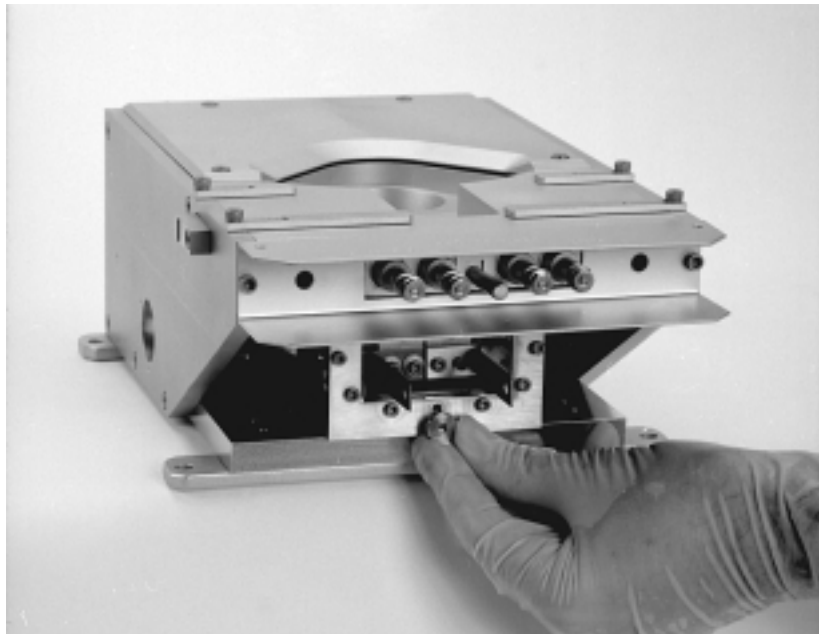

Figure 5-3. Removing the emitter assembly
Step 3: Remove the emitter assembly, if you have not already done so. First remove the knurled nut that secures the emitter to the source baseplate, as shown in Figure 5-3. Then remove the emitter.